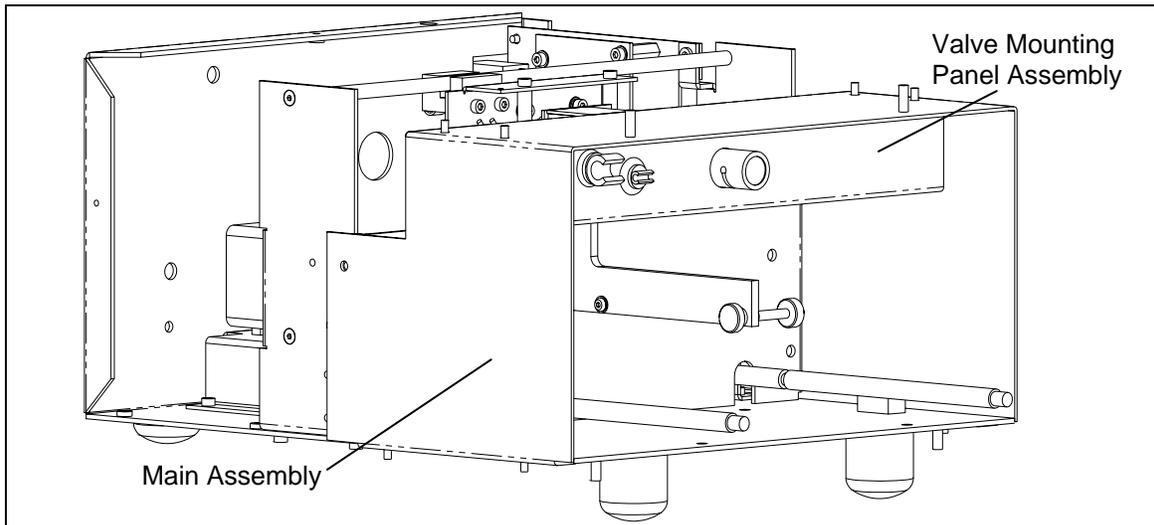

Figure 13-9 Valve Mounting Panel Assembly
- 1 Remove the Valve Mounting Assembly, which is mounted to the front cover of the Washer Module (Figure 13-9). To remove the assembly, remove the four M3 Nyloc Nuts and M3 washers.